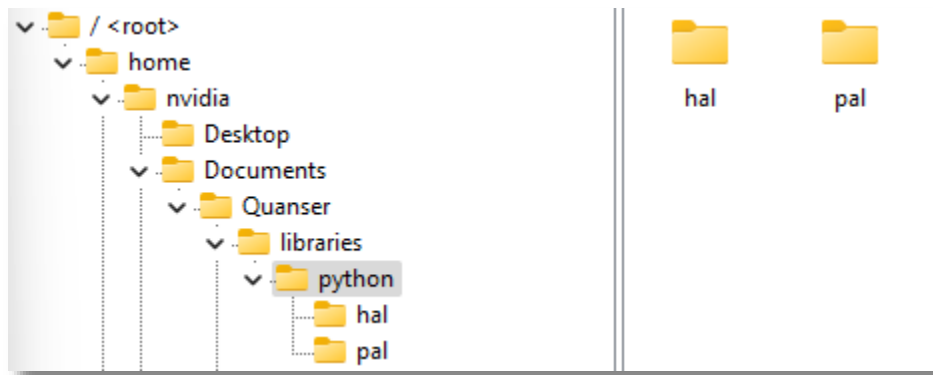

Figure 4. 'hal' and 'pal' folder in correct directory
- b. navigate to "~\Documents\Quanser\libraries\python" on the QBot Platform as shown in Figure 4, create these directories if they don't exist. Copy over the "hal" and "pal" folder from your local Windows machine, replacing existing files on QBot.